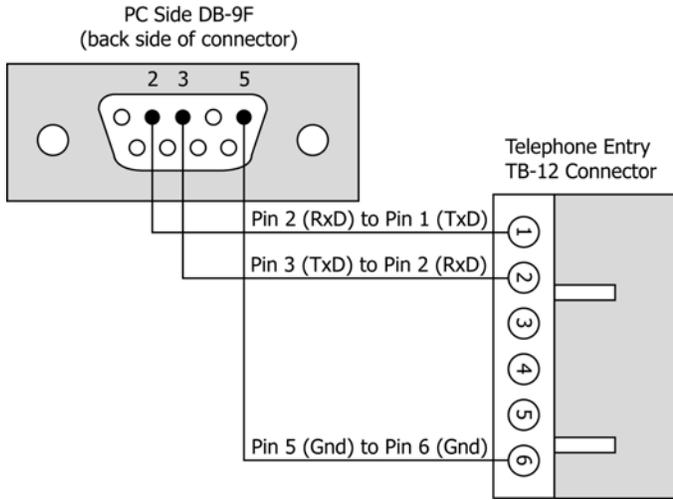

Figure 15: PC/DB-9F to Telephone Entry/TB-12 RS-232 Direct Serial Connections
- If the host computer has a male DB-9 connector on the serial port, you must use a Keri Systems KDP-252 cable or create a cable according to the drawing in Figure 15.